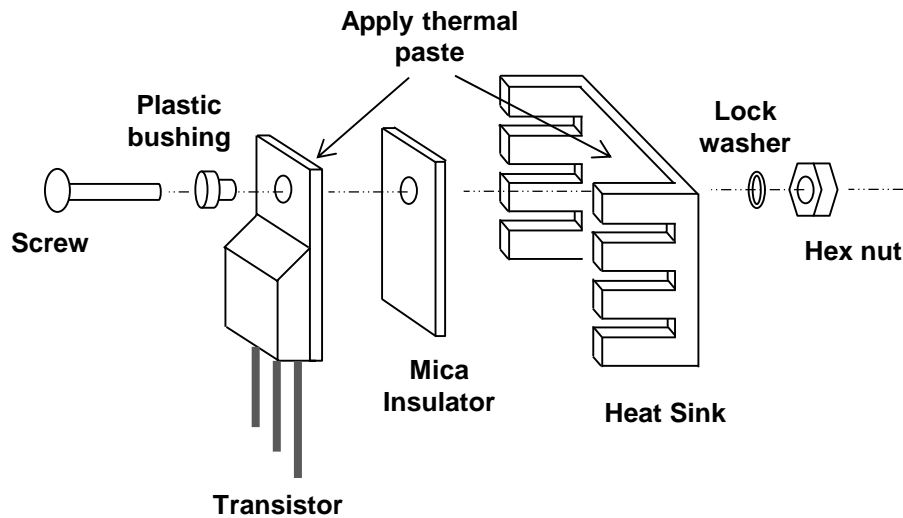

Fig. 2: Remember to apply a thin layer of thermal paste to the "back" of the transistor and "front" of the heat sink!
- Fig. 2 shows how the heat sink should be mounted to the “TO-220” package of the transistor.